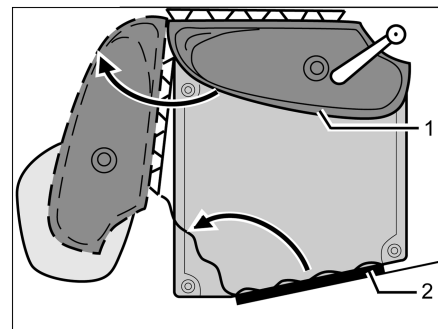

Fig. 349 Vario toilet
- Turn the wash basin and the rear wall (Fig. 349,1) in the direction indicated.
- Enter the toilet compartment and close the toilet door (Fig. 349,2) from the inside and lock.